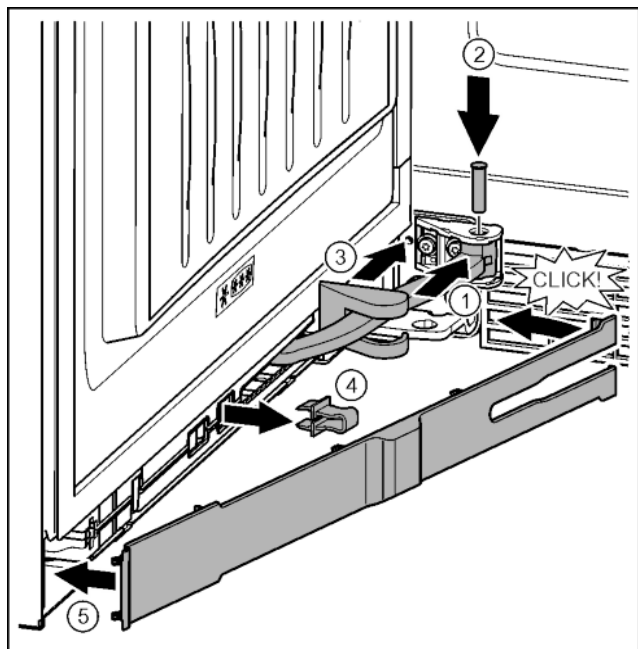

Fig. 37
- ▶ Turn the hinge in the mount. Fig. 37 (1)
- ▶ Insert the bolt with a T15 screwdriver in the mount and hinge. Ensure here that the catch is properly fitted in the channel. Fig. 37 (2)
- ▶ Slide the cover along the hinge and fit above the mount. Fig. 37 (3)
- ▶ Remove safety device. Fig. 37 (4)
- ▶ Place cover on the handle side and pivot. Fig. 37 (5)